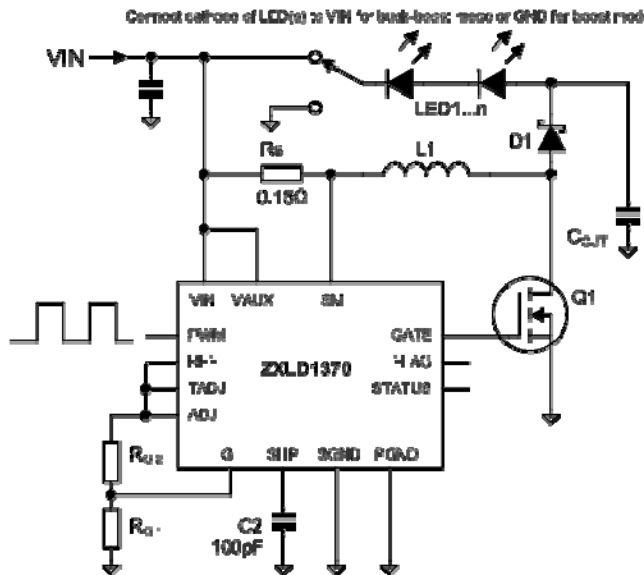

Figure 23 Boost and Buck-Boost Configuration
b) Boost and Buck-Boost modes – the most simple boost/buck-boost circuit is shown in Figure 23
The average current in the LED, I_{LED} , is always less than I_{RS} . The feedback control loop adjusts the switch duty cycle, D, to achieve a set point at the sense resistor. This controls I_{RS} . During the interval t_{OFF} , the coil current flows through D1 and the LED load. During t_{ON} , the coil current flows through Q1, not the LEDs. Therefore the set point is modified by D using a gating function to control I_{LED} indirectly. In order to compensate internally for the effect of the gating function, a control factor, $G1_ADJ$ is used. $G1_ADJ$ is set by a pair of external resistors, R_{G1} and R_{G2} . (Figure 23.) This allows the sense voltage to be adjusted to an optimum level for power efficiency without significant error in the LED controlled current.